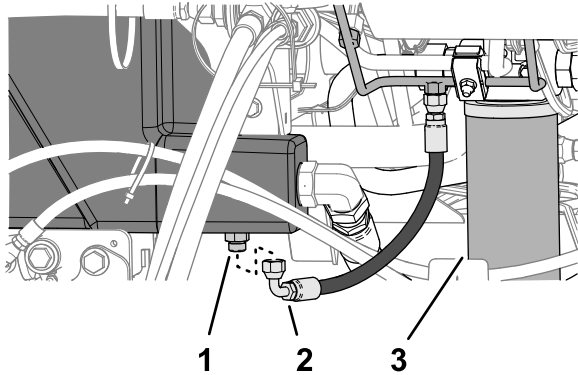

Figure 151
2. Place a large drain pan under the straight fitting (Figure 151) of the hydraulic tank; refer to Hydraulic Fluid Capacity \(page 78\).